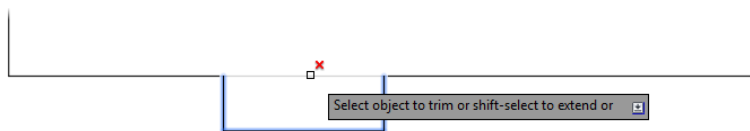

FIGURE 4.8: Selecting the polyline segment to trim away
7. Trim the pop-out by selecting it as the cutting edge. When prompted to Select object to trim or shift-select to extend or, select the long horizontal line of the cabin between the two vertical lines that define the pop-out, as shown in Figure 4.8.